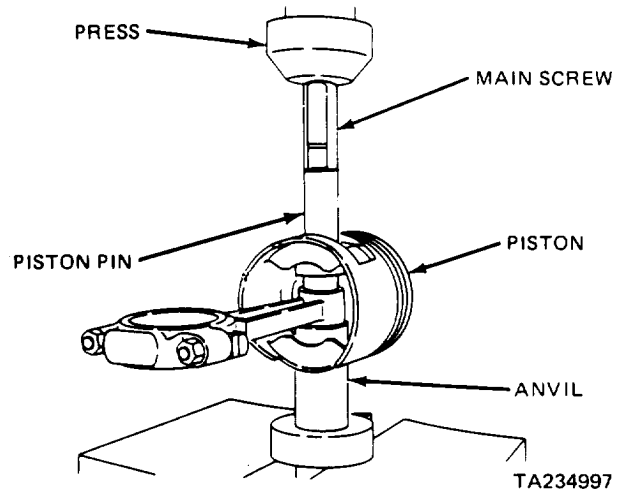

Figure 11-13. Installing Piston Pin with Tool C-4158-L.
- (8) Install the main screw and the piston pin in the piston.
- (9) Install the nut on the puller screw to hold the assembly together. Place the assembly on a press (figure 11-13).